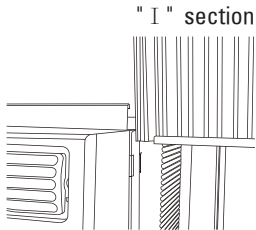

Fig. 2
B. Slide the free end "I" section of the panel directly into the cabinet (Fig. 2). Slide the panel down. Be sure to leave enough space to slip the top and bottom of the frame into the rails on the cabinet.